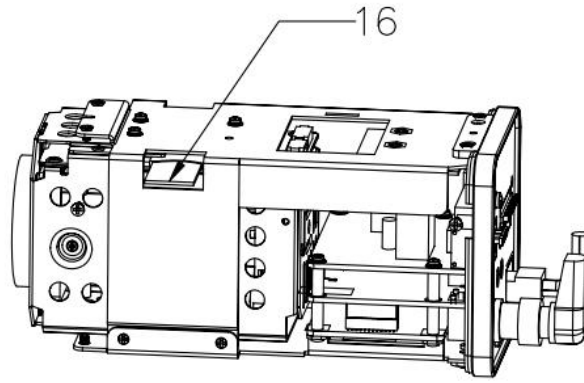

Figure 3-7
c) Take or remove SD card. See Figure 3-7.